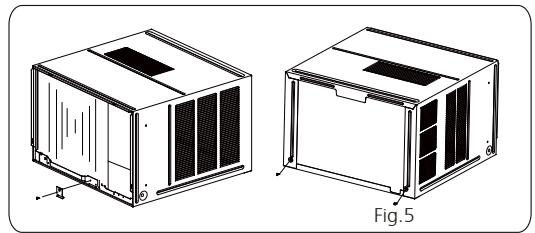

Fig.5
1. Remove one screw securing the chassis fixing bracket, then take down the chassis fixing bracket. Remove two screws located on the back of the cabinet as shown in Fig.5.